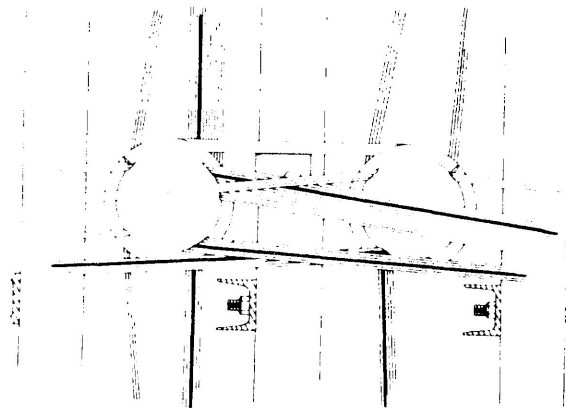

Figure 3. Line Drawing Designed to Illustrate How Jumpers, Ideally, Should Enter and Leave Rings.
5.03 Figure 3 is a line drawing of jumpers entering and leaving a ring. It illustrates the distribution of jumpers to different sections of the ring, depending on the direction of origin and termination. For the sake of simplicity Figure 3 does not show slack in the jumpers.